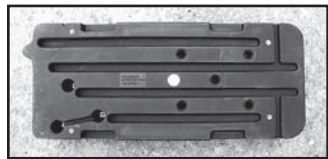

Figure 2: Insert leveling feet in locations
See Figures 2 and 2a for installing leveling feet.
3. Align leveling foot shaft with one of the four threaded hole locations as shown in Figure 2.